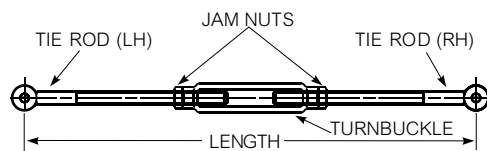

Figure 3 — Torque Arm Kit
- 3.0 Verify the torque arm kit has been assembled as shown in Figure 3.
Tighten either the 5/8-11 or 3/4-10 (Grade 2) torque arm jam nuts to 94 and 166 lb-ft, respectively (see Figure 3). Do NOT lubricate fasteners.